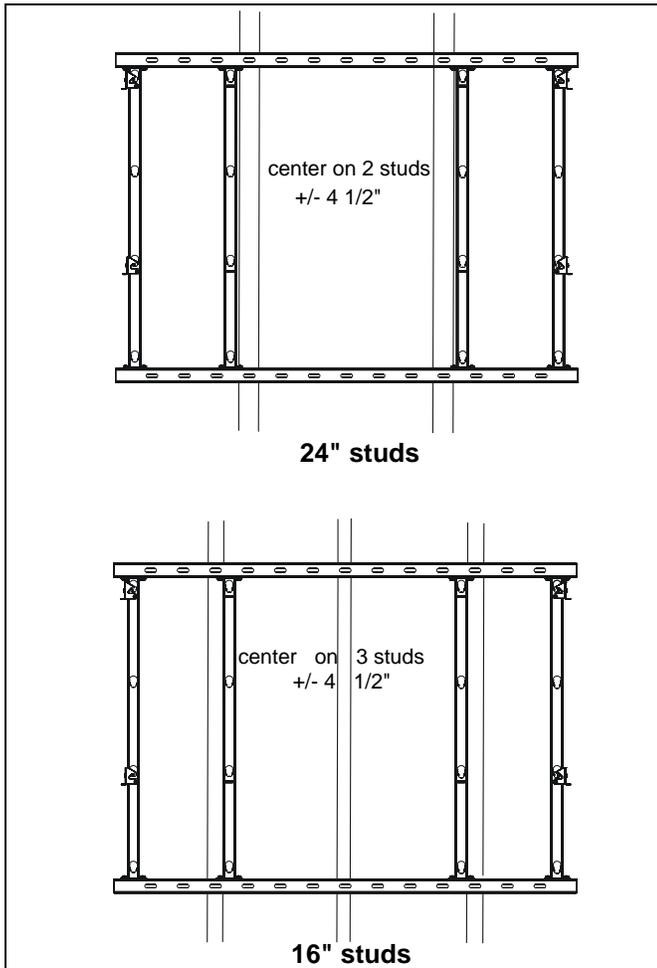

Figure 4
2. Determine mounting slots to be used for installation. (See Note below and Figure 4)
NOTE: If mounting to center of 24" studs, slots used must be centered $\pm 4 \frac{1}{2}$ ". For 16" studs, slots used must be centered over three studs $\pm 4 \frac{1}{2}$ ". (See Figure 4)